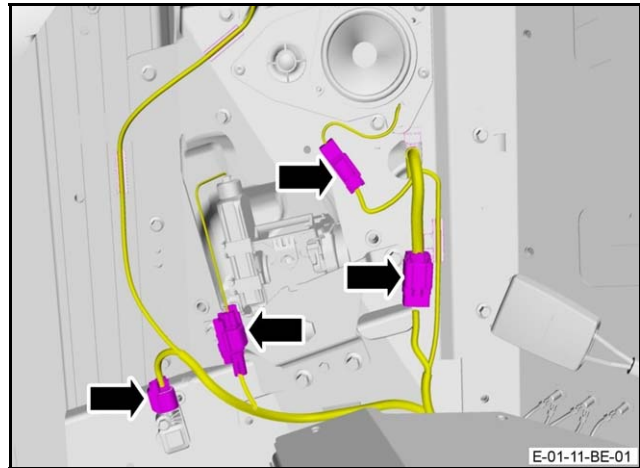

Figure 2
9. Disconnect the four electrical connectors from the speaker assembly, seat belt inertia reel, occupant restraint actuation sensor and the main body wiring harness (Refer to Figure 2).